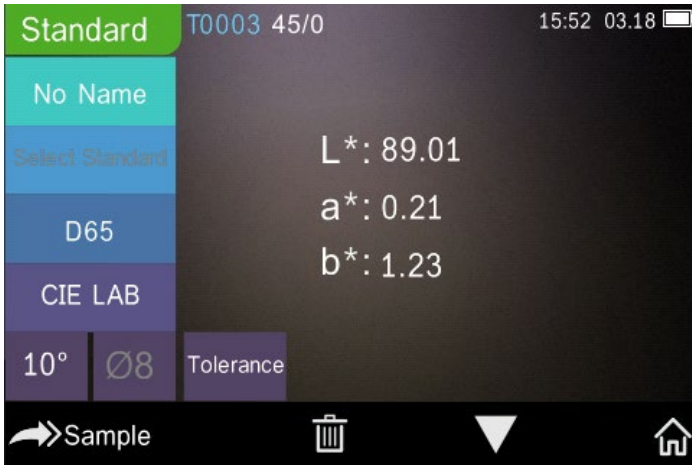
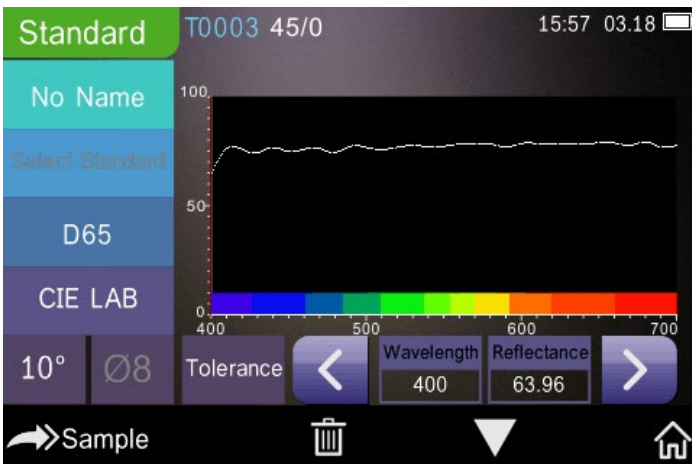
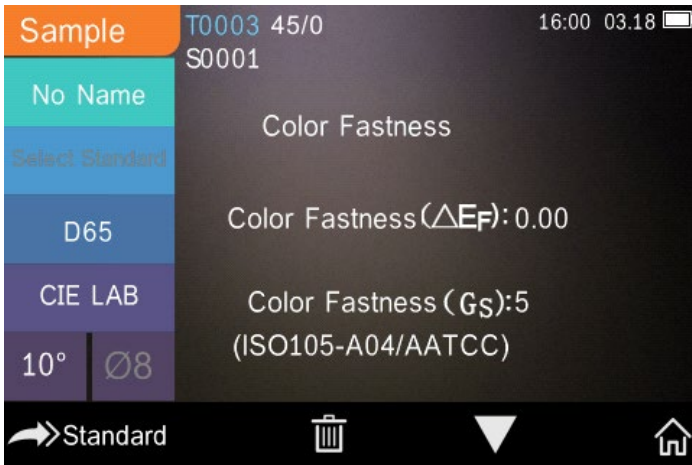
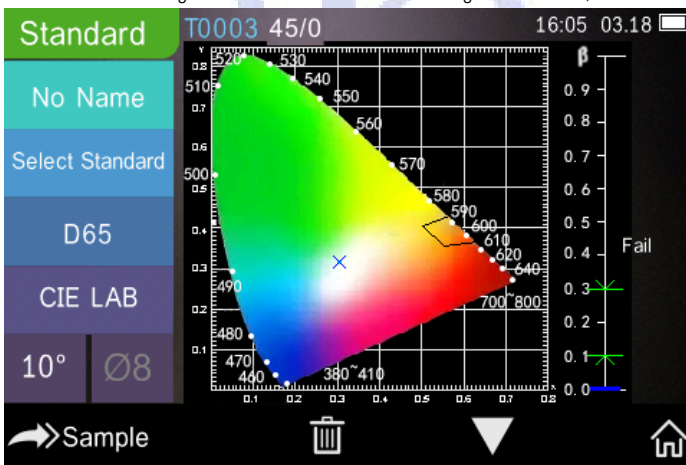

Figure 7 Chroma measurement
Figure 8A Spectral Reflectance
Figure 9 Color Index
Figure 8B Traffic sign information
As shown in Figure 7, it is working condition area at the top of measurement interface, displaying the status of measurement mode (SCI/SCE), Bluetooth and UV conditions. At the left side, it is shortcut display, it could switch different modes by pressing different icons. At the middle, it displays different chromatic data according to different setting of color formula. It is operation buttons area at the bottom, which could operate the data by pressing the different buttons. Figure 8A is spectral reflectance interface and Figure 9 is color index interface.
If the measurement of traffic signs in the system settings is off, the "Select Standard" in Figure 7 will be gray and there will be no response by clicking the shortcut key. If the measurement of traffic signs is on, the "Select Standard" in Figure 7 will display normally and clicking the shortcut key will enter the selection interface of traffic signs.
The spectral reflectance interface of Figure 8A will also become traffic sign information, as shown in Figure 8B.
16) β : the luminance factor of traffic signs; it will show “Pass” when the measured value is within the set range, otherwise, it shows “Failure”, as shown in Figure 8B.
Click “” to turn the page, and check whether the chromate coordinate of the measured sample is within the polygon of the traffic sign standard and whether the β value is under the allowable range of the traffic sign standard as shown in Figure 8B. It will show “Pass” only if both items meet the requirements, otherwise it will display “Fail”.